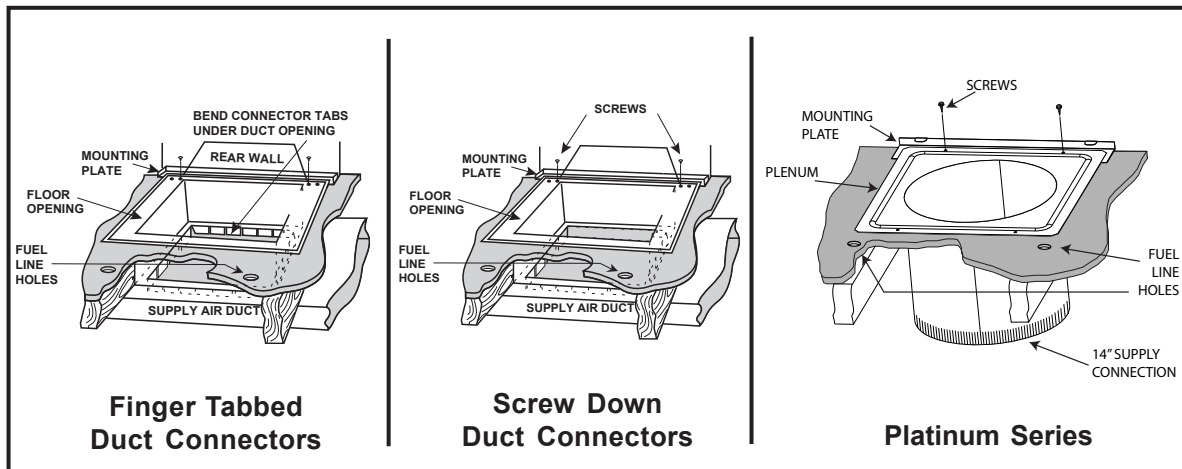

Figure 9. Duct Connector Types
- Place mounting plate (supplied within duct connector) at rear of the floor opening (See Figure 9).
- a. Place duct connector through the floor opening. (See Figure 9).
- a. Place duct connector through the floor opening with bottom tabs extending through the duct opening. (See Figure 9)